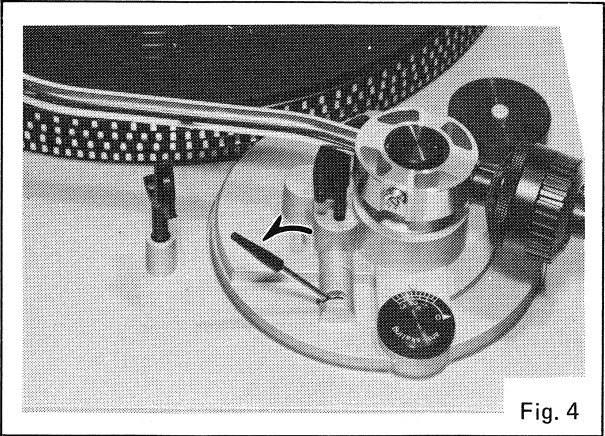

Fig. 4
7. Set the cueing lever to the down position. (See Fig. 4.) The tonearm will descend slowly onto the record and play will begin.